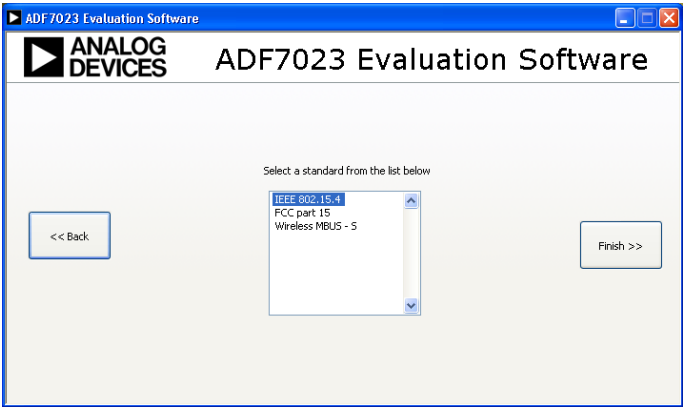

Figure 8
- 6.1. If you choose to select a standard from the default standards list by pressing the button on screen, the standard configuration list will appear (Figure 8). Choose a standard from the list and click **"Finish"**.